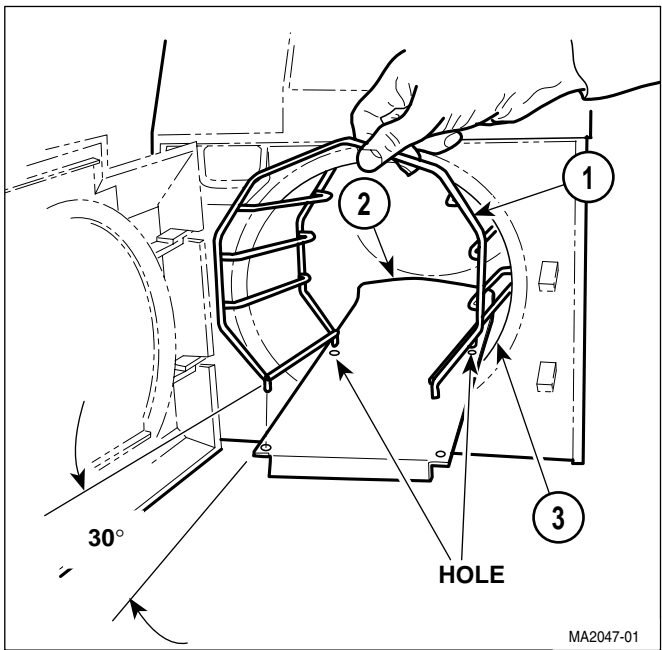

Figure 4-19. Wire Tray Rack and Tray Plate Removal / Installation
- (1) Open sterilizer door.
- (2) Remove trays.
- (3) Pull wire tray rack (1, Figure 4-19) and tray plate (2) from pressure vessel (3).